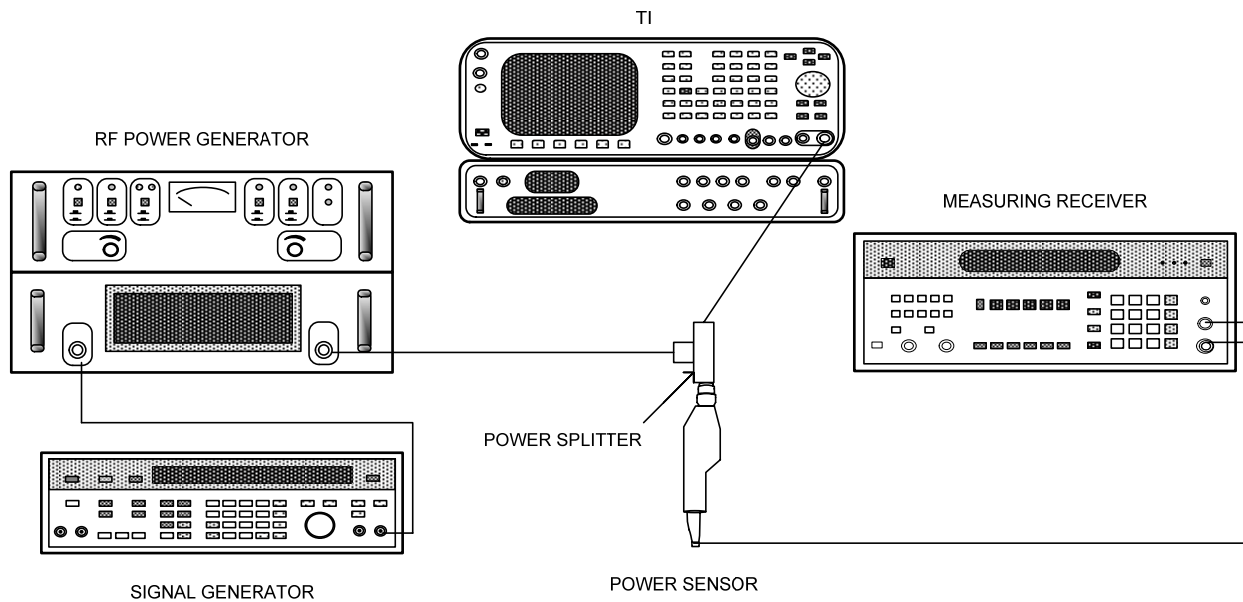

Figure 6. Power meter setup (20mW – 500mW range).
(2) Press **MODE MTRS** (Meters Menu) key and **DATA ENTRY 3** key (Pwr Meter (Pulse/CW)).
(3) Connect equipment as shown in figure 6.